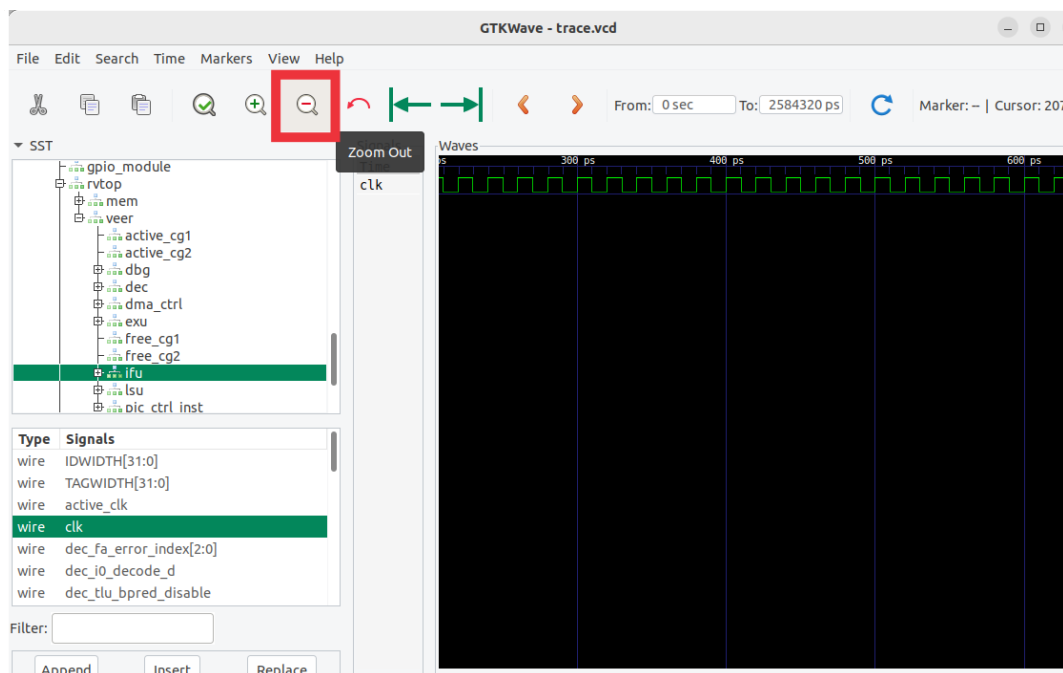

Figure 68. Zoom out
- Zoom out several times so that you can view the clock signal change (Figure 68).